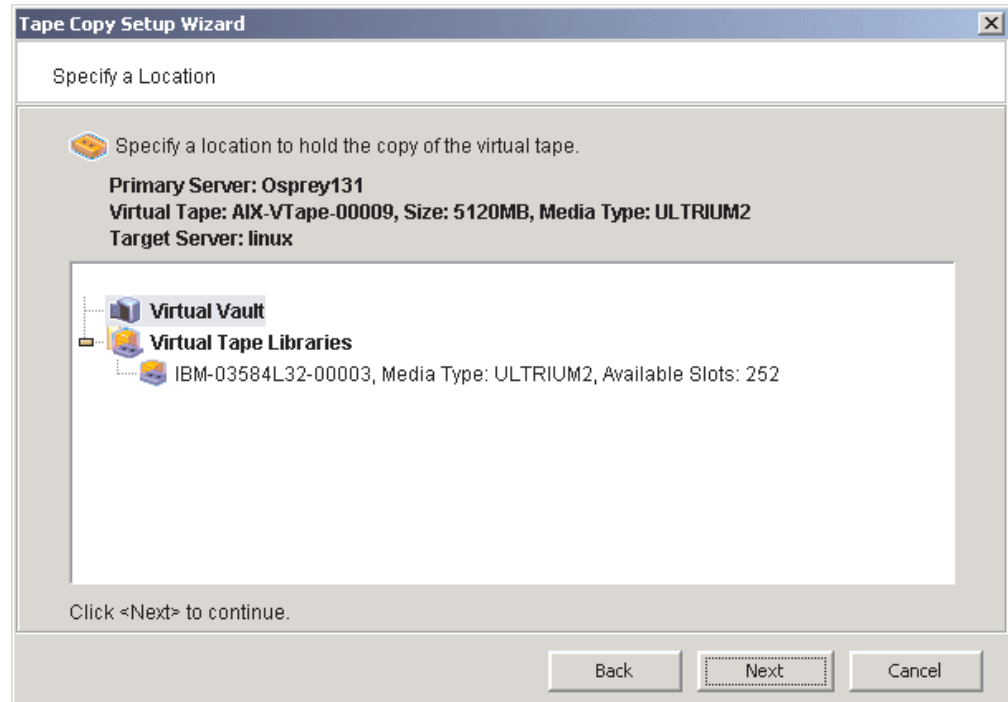

Figure 83. Tape Copy Setup Wizard
5. ___ In the Specify a Location window, navigate to and select a location for the tape to be copied. See Figure 83.